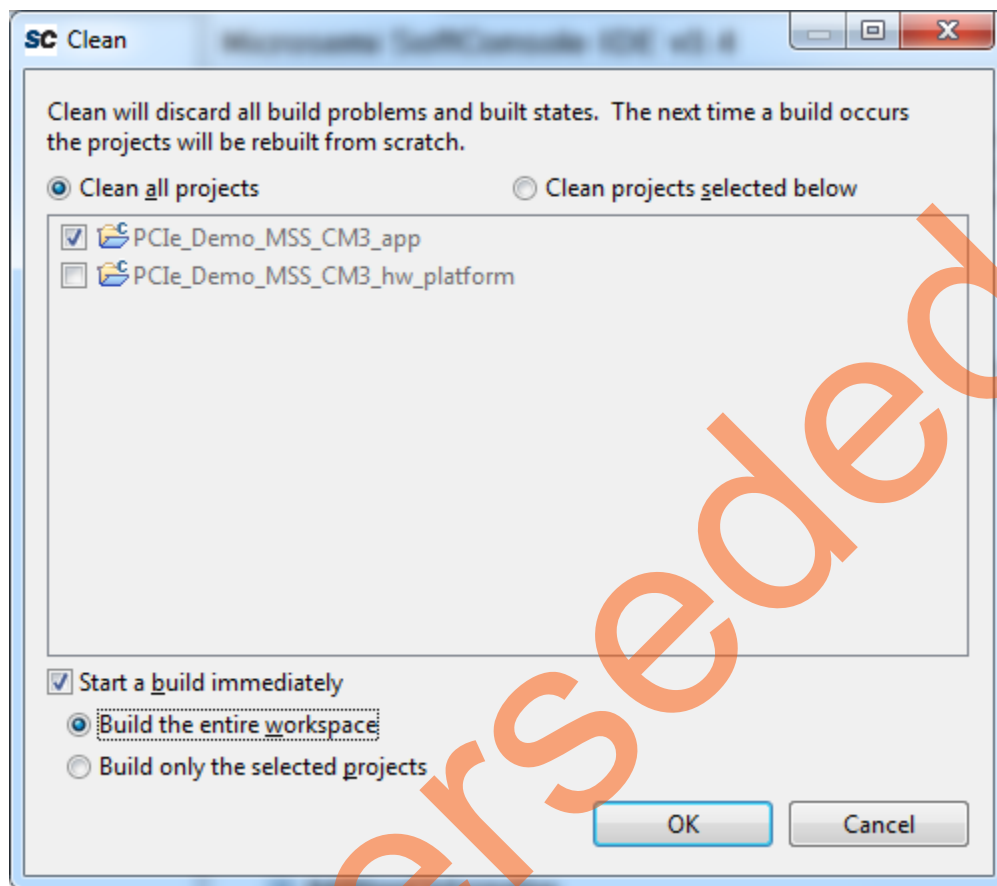

Figure 39 • Clean and Build SoftConsole Projects
11. The **Clean** window is displayed. Click **OK** to build the SoftConsole projects as shown in Figure 39.